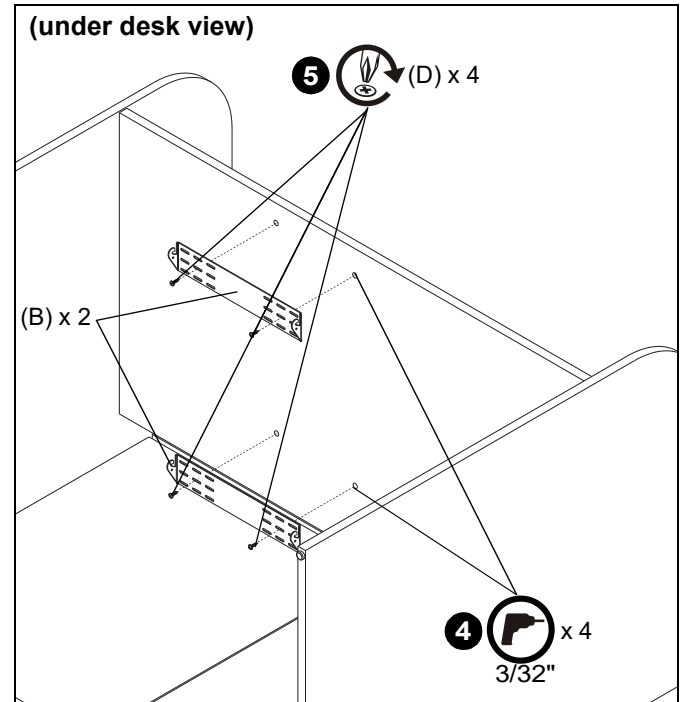

Figure 3
4. Drill four 3/32" pilot holes at marked locations under desk. (See Figure 3)
5. Use four #10 x 3/4" Phillips wood screws (D) to secure two desk brackets (B) to underside of desk. (See Figure 3)